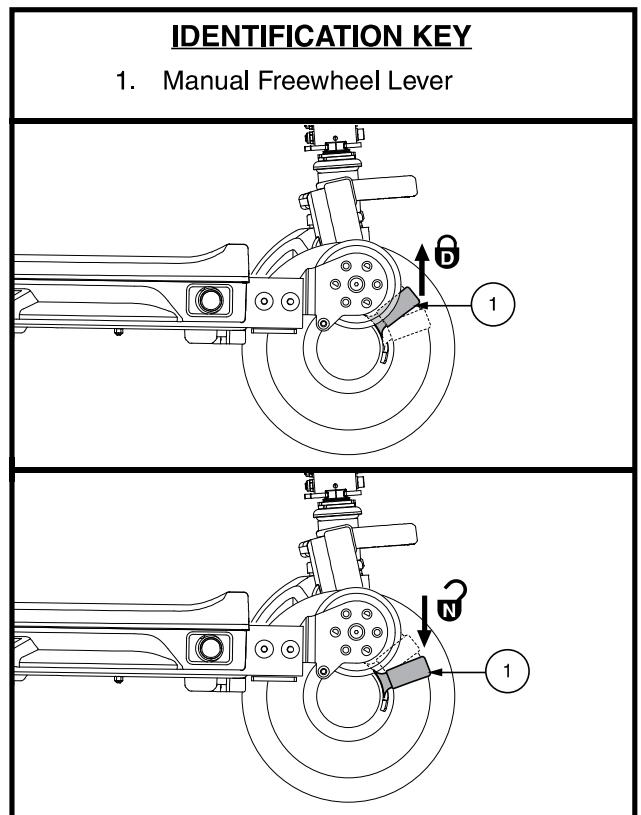

Figure 5. Freewheel Lever
3. Locate the manual freewheel lever near the front wheel. See figure 5.
3. Ensure that the scooter is in drive mode. See figure 5.